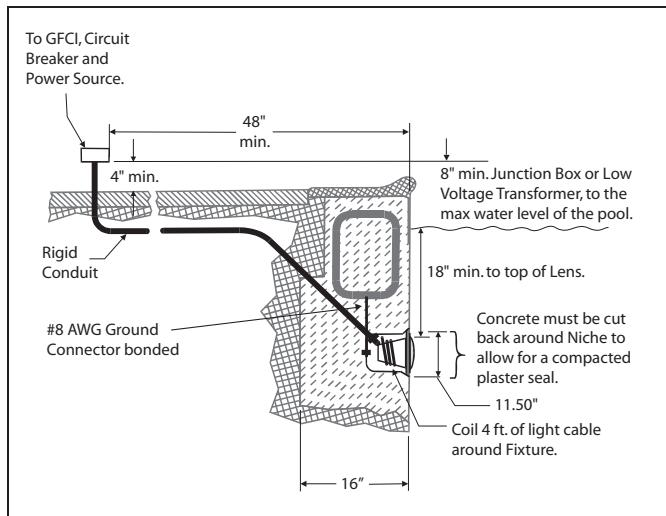
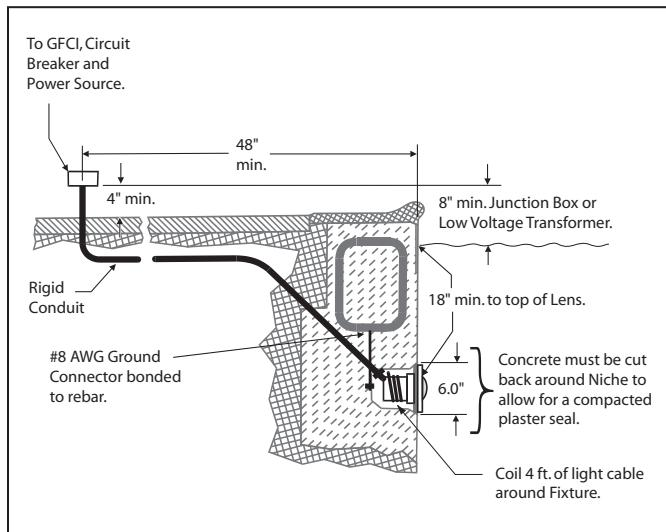

Figure 1. Jandy Pool White Light Installation
Figure 2. Jandy Spa White Light Installation
NOTE: The electrician must complete preparatory steps before light fixture is installed; see Figure 1 (or Figure 2, for spa).
- The Junction Box (or, for 12 volt models, the low voltage transformer) must be located at least eight (8) inches above water level, at least four (4) inches above ground level or pool deck level, and at least four (4) feet from the edge of the pool or spa; see Figure 1 for pools and Figure 2 for spas.
- The light fixture and all metal items within five (5) feet of the pool or spa must be properly electrically bonded to a reliable point of grounding.
- The wet niche must be properly installed so that the top edge of the underwater light's lens is at least 18 inches below the surface of the water in the pool or spa; see Figure 1 or 2.
- The wet niche must be properly electrically bonded and grounded via the No. 8 AWG ground connector located at the rear of the niche; see Figure 1 or 2.
1. Feed cord through conduit to Junction Box, leaving at least four (4) feet of cord at the light fixture to coil around the light; see Figure 1 (or Figure 2, for spa). This four (4) feet of cord around the light allows the light to be serviced after the pool or spa is filled with water.
2. Cut the cord at the Junction Box, leaving at least six (6) inches of cord to make connections.
3. Strip six (6) inches of the outer cord jacket to expose the three insulated wires. *Be careful not to damage the insulation on the three (3) inner wires.*
4. Install strain relief over cord jacket and connect all three (3) wires to the corresponding circuit wires in the Junction Box. Install the Junction Box cover.
2. The Junction Box (or, for 12 volt models, the low voltage transformer) must be located at least eight (8) inches above water level, at least four (4) inches above ground level or pool deck level, and at least 48 inches from the edge of the pool or spa; see Figure 1 (or Figure 2, for spa).
3. The light fixture and all metal items within five (5) feet of the pool or spa must be properly electrically bonded to a reliable point of grounding.
4. The wet niche must be properly installed so that the top edge of the underwater light's lens is at least 18 inches below the surface of the water in the pool or spa; see Figure 1 (or Figure 2, for spa).
5. The wet niche must be properly electrically bonded and grounded via the No. 8 AWG ground connector located at the rear of the niche; see Figure 1 (or Figure 2, for spa).
5. Leave at least four (4) feet of cord to coil around the light fixture; see Figure 1 (or Figure 2, for spa). This allows the light to be serviced after the pool or spa is filled with water.
6. Cut the cord at the Junction Box, leaving at least six (6) inches of cord to make connections.
7. Strip six (6) inches of the outer cord jacket from the cord to expose the three insulated wires. Be careful not to damage the insulation on the three (3) inner wires.
8. Install the strain relief over the cord jacket and connect all (3) three wires to the corresponding circuit wires in the Junction Box. Install the Junction Box cover.